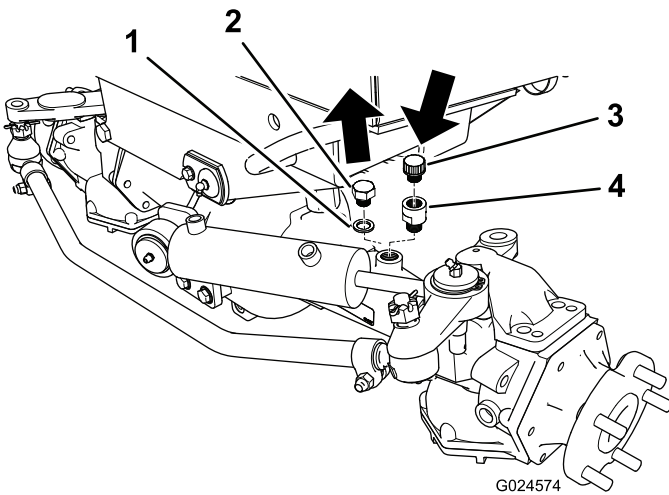

Figure 3
- On the right side of the axle, remove the plug and gasket (Figure 3).
- Install the vent extension and vent into the hole in the axle (Figure 3).